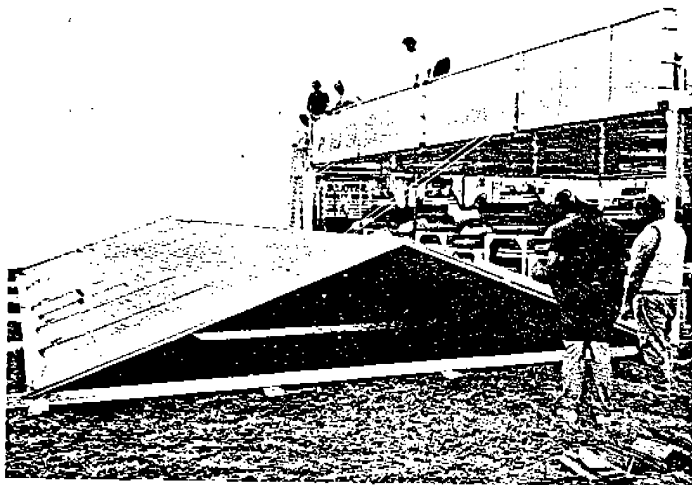

FIGURE 5
2. **LOWER DECK** that winch cables are fastened to. By using toggle switch, snug up cables. Now, remove two 1 1/4" tee handle safety anchor bolts from end of deck. With a person at each end of deck, pull out while extending cables. (See Figure 5). After deck has been lowered, wind up cables and repeat procedure on other side.